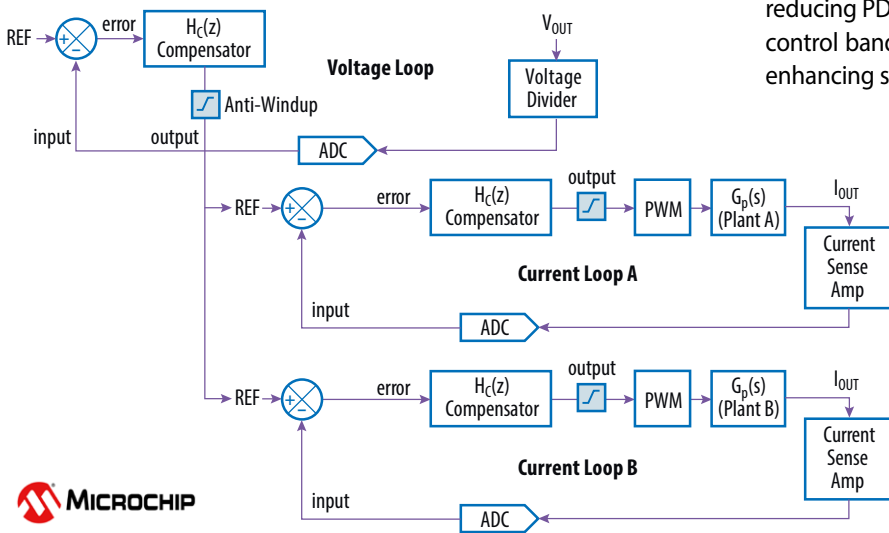

Figure 12. Interleaved buck converter average current mode control
- **Conventional, Robust Average Current Mode Control (ACMC) (figure 12):** With this firmware the power converter is controlled by one outer voltage loop providing a shared reference to two independent inner average current loops controlling the phase current of each converter phase. This conventional approach ensures proper current balancing between both phases of this interleaved converter, operating 180° out of phase to minimize the input current ripple and filtering. The inner current loops are adjusted to average cross-over frequencies of 10 kHz. To balance the current reference perturbation of the inner current loops, the outer voltage loop has been adjusted to an average cross-over frequency of 2 kHz, which determines the overall response time of the converter.